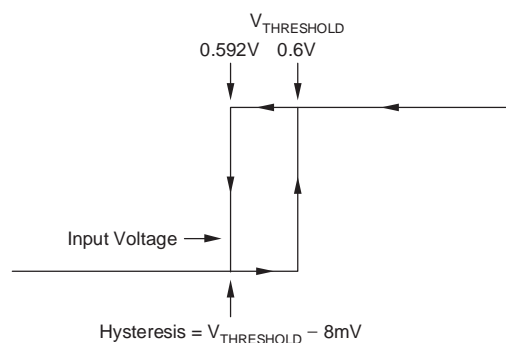

Figure 1. Typical Comparator Hysteresis
(1) Hysteresis refers to the threshold (the threshold specification applies to a rising edge of a noninverting input) of a falling edge on the noninverting input of the comparator; refer to Figure 1.
(2) Specified by design.
(3) V_{ID} refers to the differential voltage at the comparator inputs.
(4) Open-drain output can be pulled to the range of +2.7V to +18V, regardless of V_S .
(5) The comparator response time specified is the interval between the input step function and the instant when the output crosses 1.4V.
(6) The RESET input has an internal $2\text{M}\Omega$ (typical) pull-down. Leaving RESET open results in a LOW state, with transparent comparator operation.